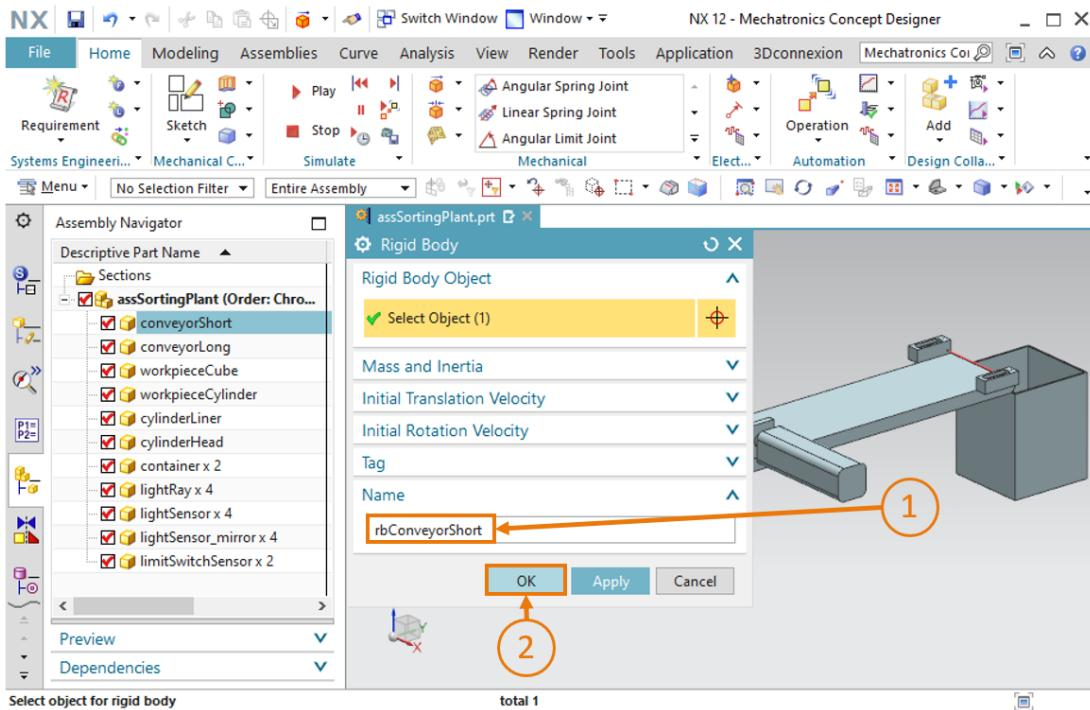

Figure 11: Creating a rigid body in MCD – Name assignment
- Enter "rbConveyorShort" as the name (see Figure 11, step 1) and confirm your settings by clicking the "OK" button (see Figure 11, step 2). The prefixed abbreviation "rb" stands for "rigid body".